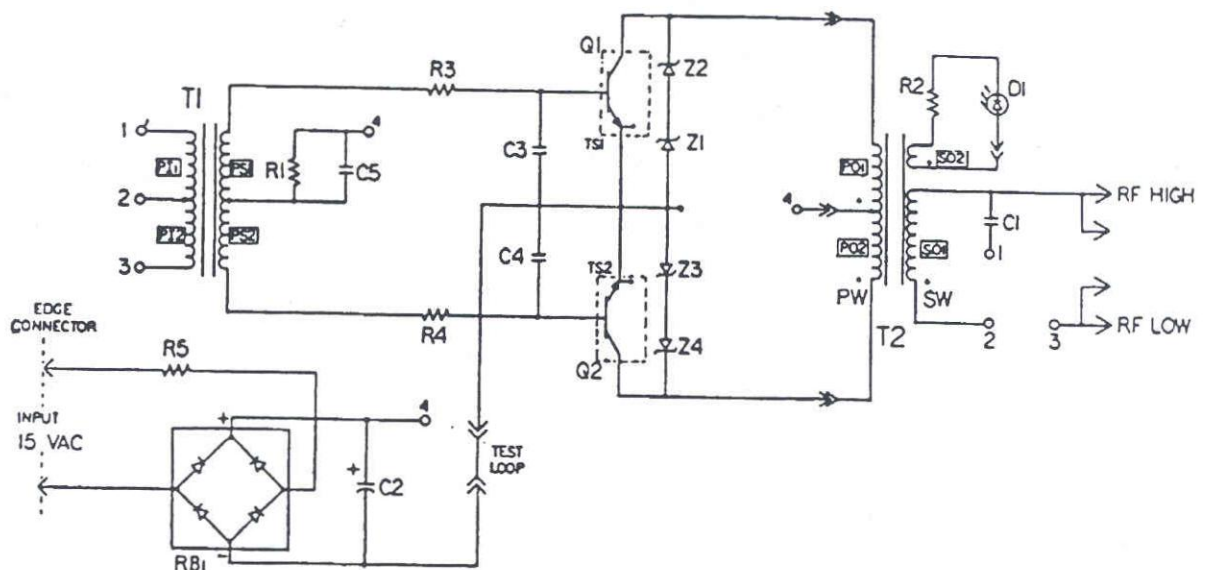

Figure 4-1. Power module wiring diagram.
a. Oscillator section. (See figures 4-1 and 4-2.)